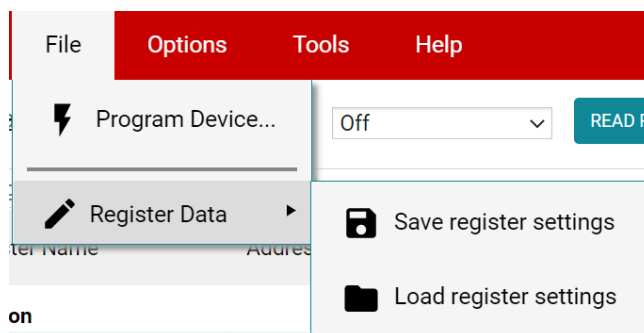

Figure 3-10. Save and Load Register Settings
- For convenience, register settings can be saved and loaded back later to any device with the same register map. To do this, go to *File > Register Data*, as shown in Figure 3-10.